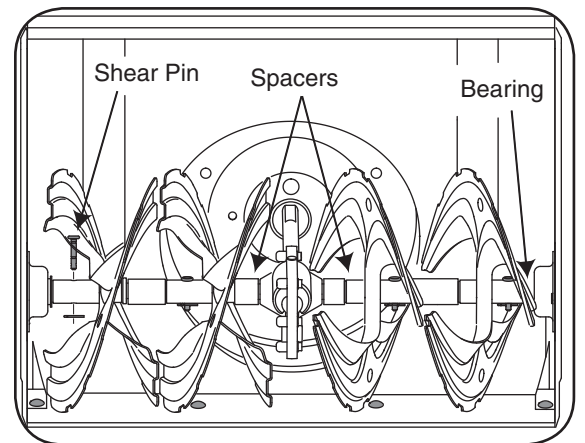

Figure 6-2
At least once a season, remove the shear pins on auger shaft. Spray lubricant inside shaft, around the spacers. Also lubricate the flange bearings found at either end of the shaft. See Figure 6-2.
- The augers are secured to the spiral shaft with two shear pins and cotter pins. If the auger should strike a foreign object or ice jam, the snow thrower is designed so that the pins may shear. Refer to Figure 6-2.